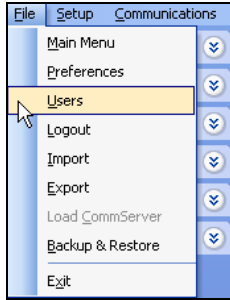

Figure 1.4.1
1. In the toolbar at the top of the screen select **File** and then scroll down to the word **Users** and click on it (Figure 1.4.1).